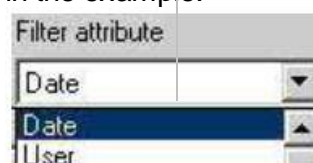

Figure 244: Select Filter Attribute – Date in the Example
- 3) Set date and time in **Filter attribute** entry. All changes which were executed on this date and at this time are displayed. (*Please refer to the Figure 244*).